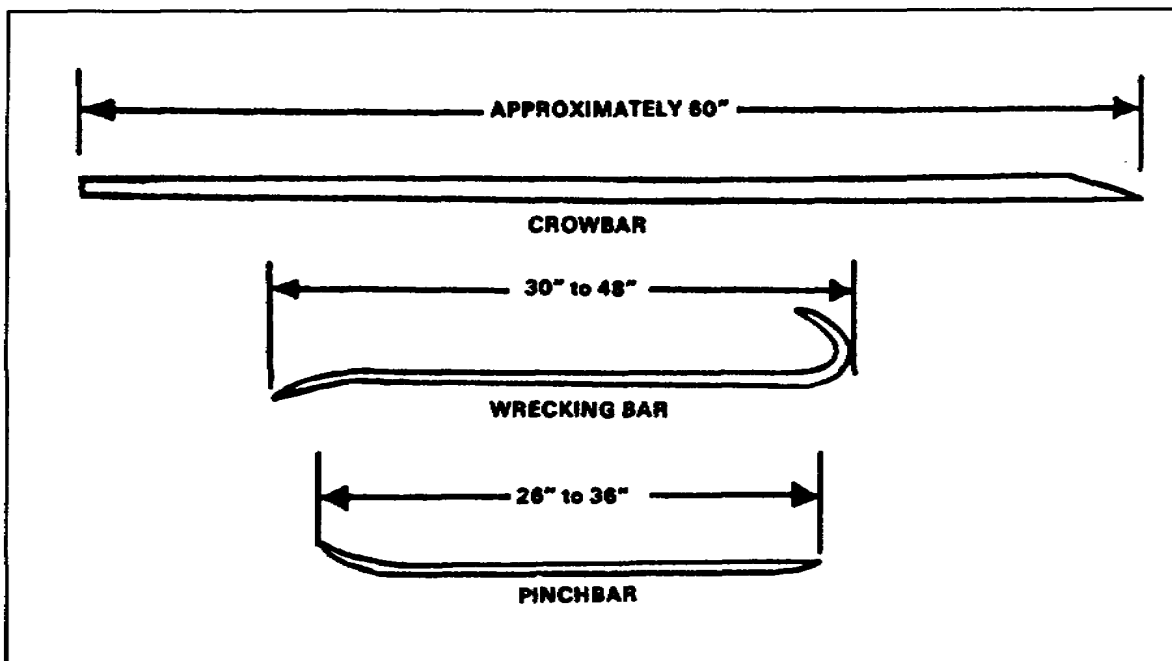

Figure 2-54. Wrecking bars
b. Wrecking Bars. Wrecking bars are usually made of forged, tempered steel. They are hexagonal in shape, with a curved, slotted neck for pulling large nails. The average length is 24 to 36 inches. They are used to dismantle and tear down wooden structures. A bar of the same type without a curved neck is called a *pinch bar*. Its use is similar to that of a wrecking bar. Figure 2-54 shows the types of wrecking bars.